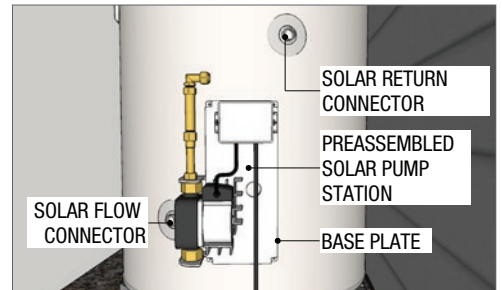

Fig 2
1. Position the base plate including the pre-assembled solar pump station which includes the solar controller, pump and flow control valve onto the tank to the right of the solar flow outlet connector just below the solar return inlet connector (Fig 2)